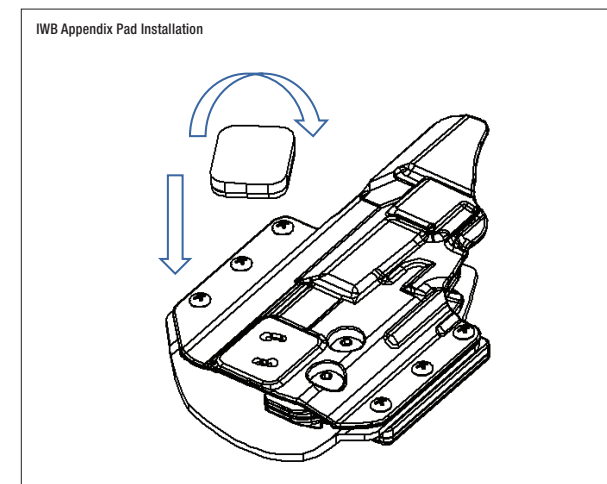

Figure 6
An Appendix Pad (16) is provided in the Accessory Pack to provide additional wear comfort or to provide counterbalance against the body for enhancing concealment. Remove the adhesive backing of the pad and stick it to the flat side of the Appendix Pad Base (15). Insert the barbed posts of the Appendix Pad Base into the key-hole slots of the PolyBack (7). Rotate clockwise to lock it into position as shown in Figure 6. Check for proper up and down draw as well as desired concealment once installed. To remove, rotate the counter-clockwise while slightly pulling upwards.